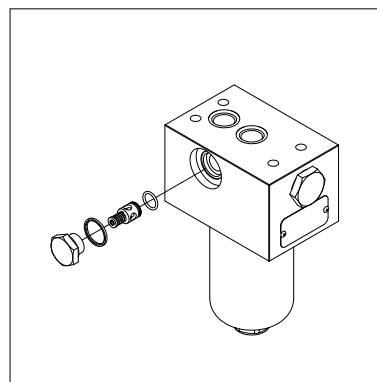

fig. 24
- (Fig. 24) Replace the O-rings of the bypass